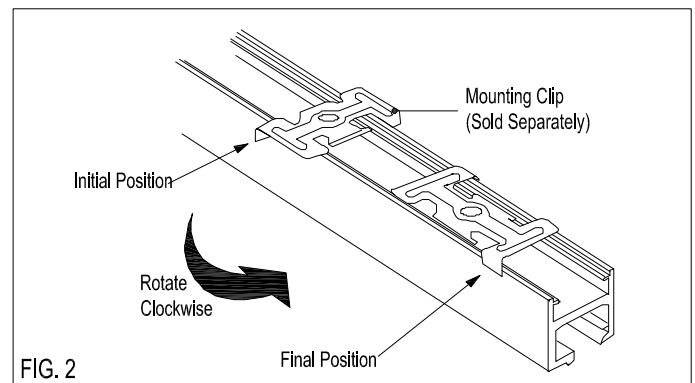

FIG. 2
3. Rotate mounting clips into Track. (Fig.2)